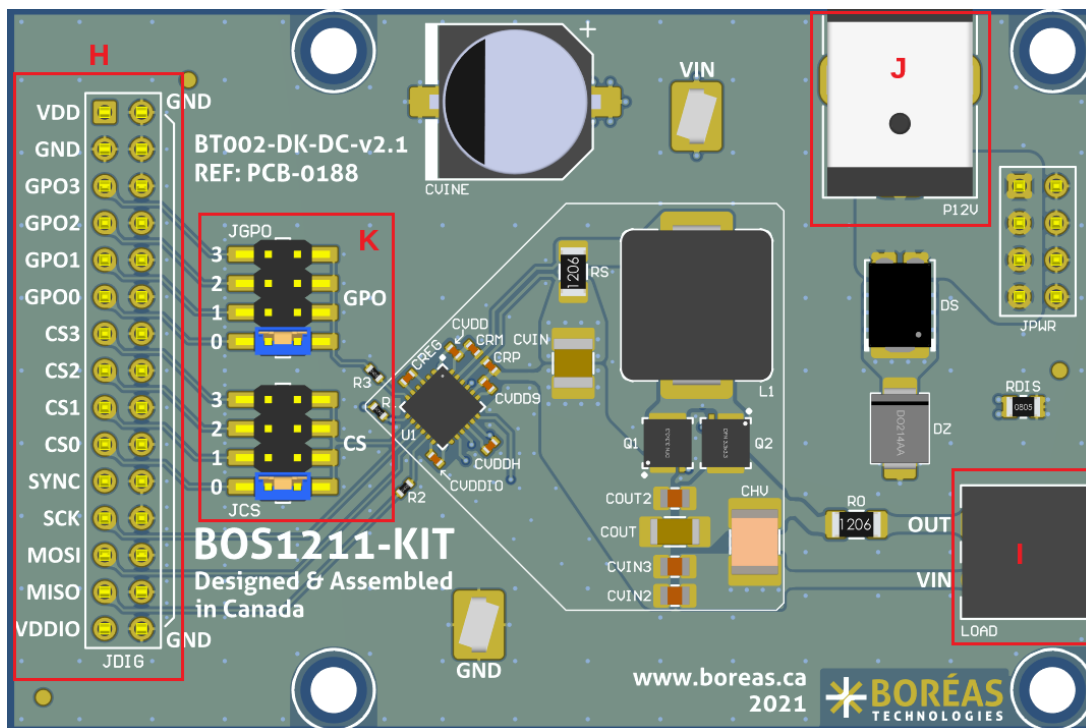

Figure 3: BOS1211-KIT driver board user interface
4. Using a small slotted screwdriver, install TDK 1313 piezo electric actuator on terminals block plugs. **Pay attention to connect the red wire on the OUT terminal and the black wire on the VIN terminal.** Refer to Figure 3 to identify location of OUT and VIN on the terminal block.